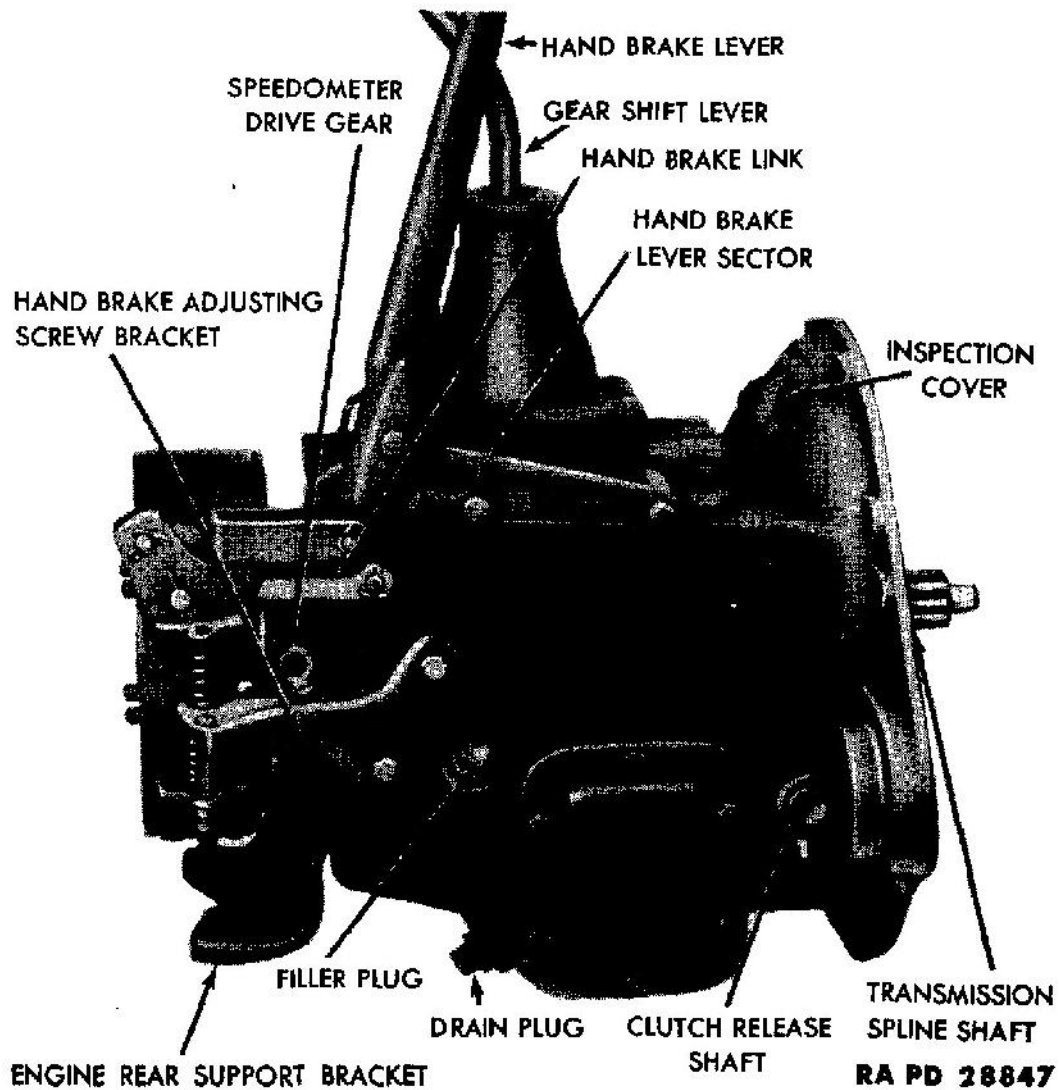
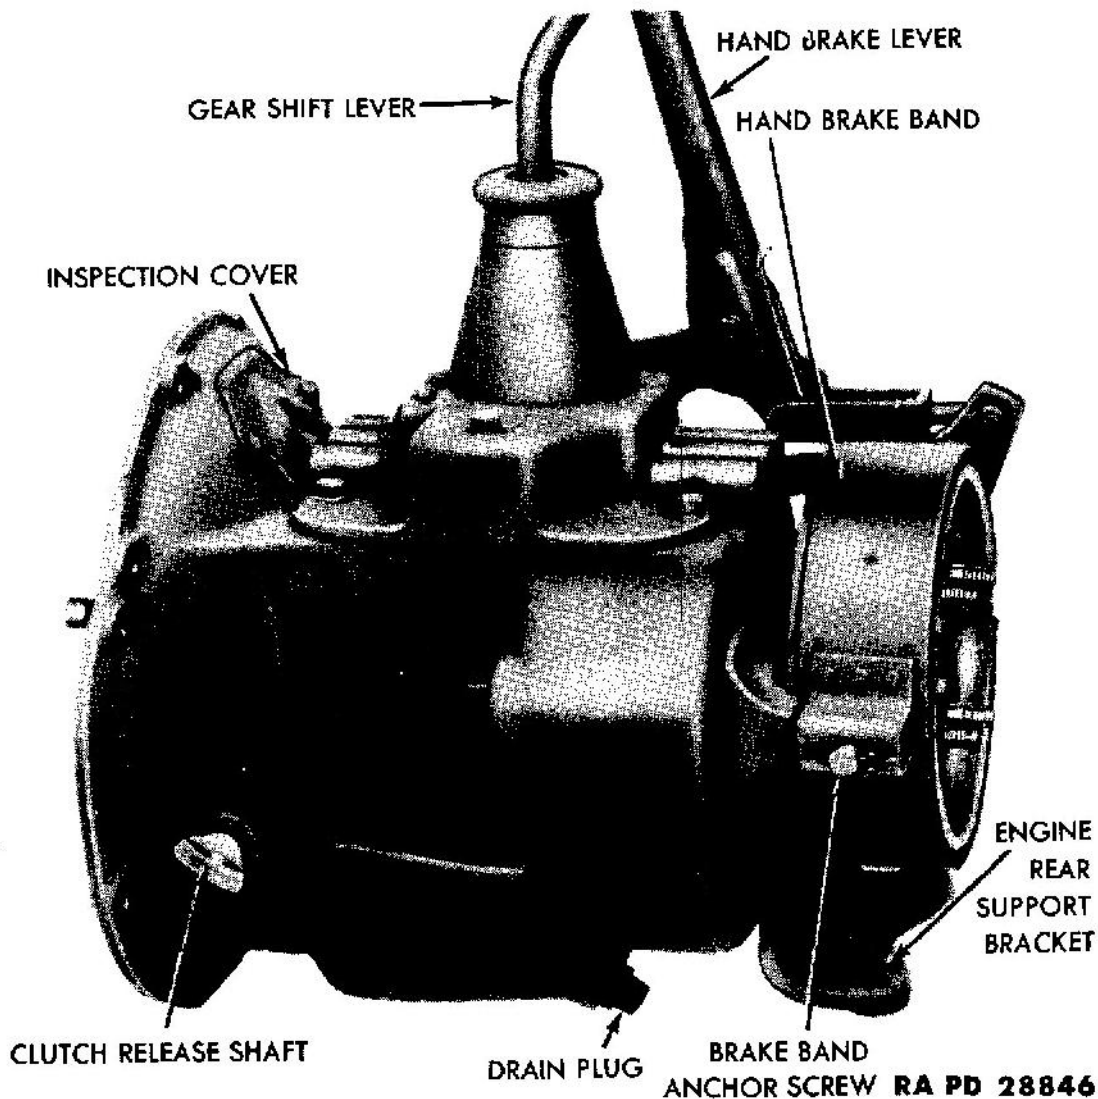

Figure 54 — Transmission — Right Side
Figure 55 – Transmission – Left Side
a. The transmission (figs. 54 and 55) is of the standard selective-sliding-gear type, with four speeds forward and one reverse. The gearshift lever is mounted on top of the transmission.
(2) **REMOVE HAND BRAKE ASSEMBLY.** Remove the two cap screws which secure the hand brake lever sector to the transmission (fig. 54). Remove the two cap screws from the brake adjusting screw bracket (fig. 54). Disconnect the hand-brake link from the transmission (fig. 54). Disconnect the anchor adjusting screw from the brake band (fig. 55). Remove the brake band assembly and band brake lever. Remove the nut which holds the universal joint flange to the transmission main shaft. Remove the universal joint flange and the brake drum.